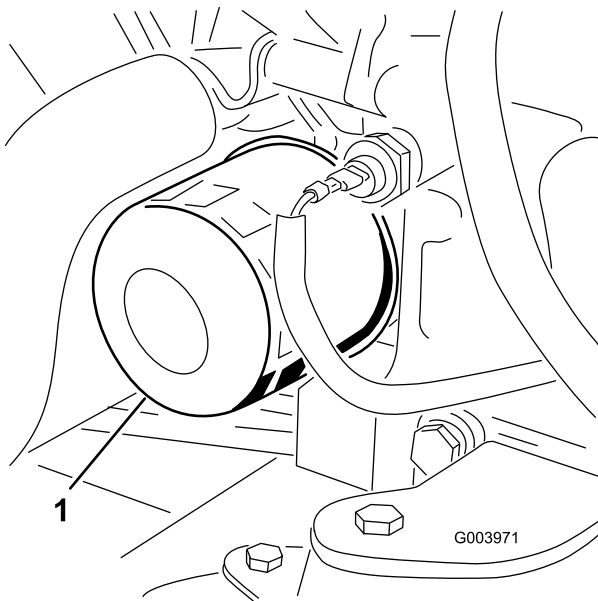

Figure 64
3. Remove the oil filter (Figure 64).